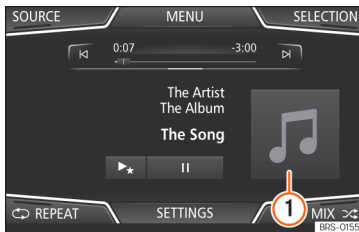
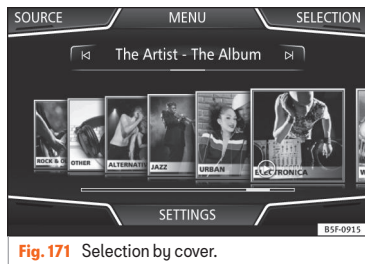
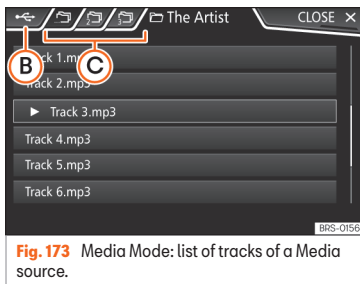

Fig. 170 MEDIA main menu.
Fig. 171 Selection by cover.
Fig. 173 Media Mode: list of tracks of a Media source.
Clicking on the current cover »»» Fig. 170 ① will display all of the album covers available in the active Media source »»» Fig. 171.
• Press the **SELECT** function button on the **MEDIA** main menu »»» Fig. 170 to open the track list. The track that is playing is highlighted »»» Fig. 173.